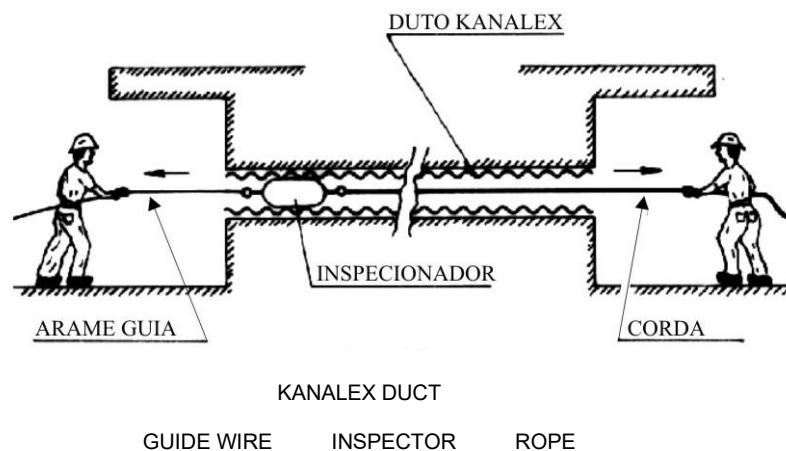

Figure 35
- b) Then, pull the guide wire and introduce the inspector into the inside of the duct until reaching the other end (Figure 35).